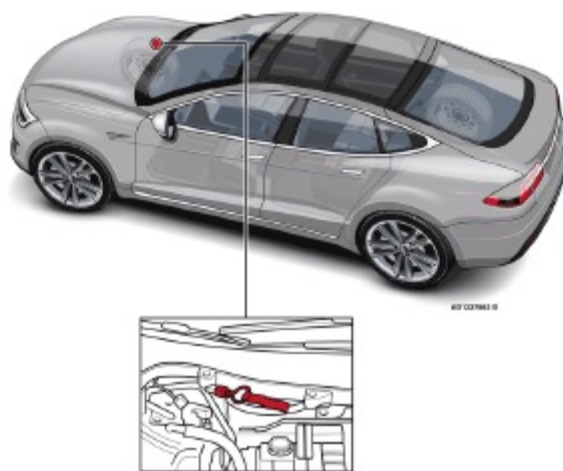

Figure 3. First Responder Loop.
7) Disconnect the First Responder Loop figure 3 and wait for 2 minutes.